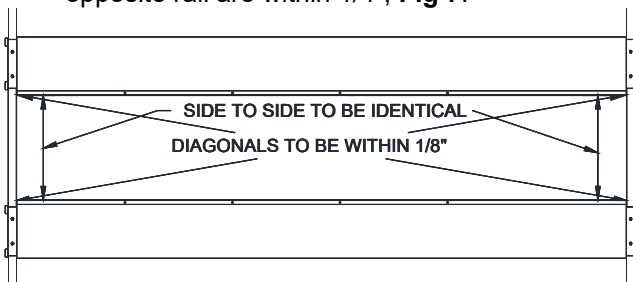

Fig 7 – Final Runway Positioning
- 14) Check the layout of the lift in the bay. (**This is the last opportunity to reposition the lift.**) Adjust the position of the runways so the distance from power side jack rail to idler side jack rail is the same at the front and the rear and the diagonal measurements from the front tip of one rail to rear tip of the opposite rail are within 1/4”, **Fig 7**.